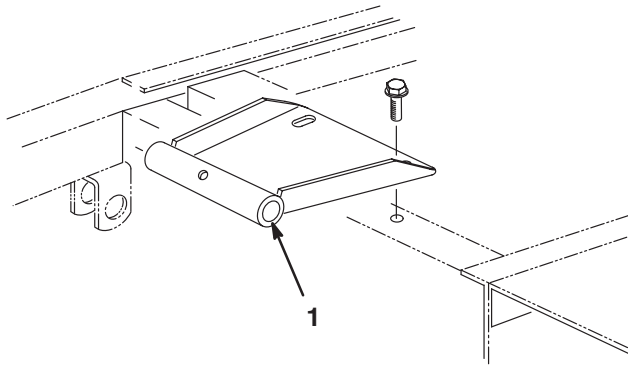

Figure 8
2. Mount seat pivot bracket to frame with 2 flange screws supplied in kit (Fig. 8)
4. Mount seat pivot bracket to frame with (2) flange screws supplied in kit (Fig. 8)